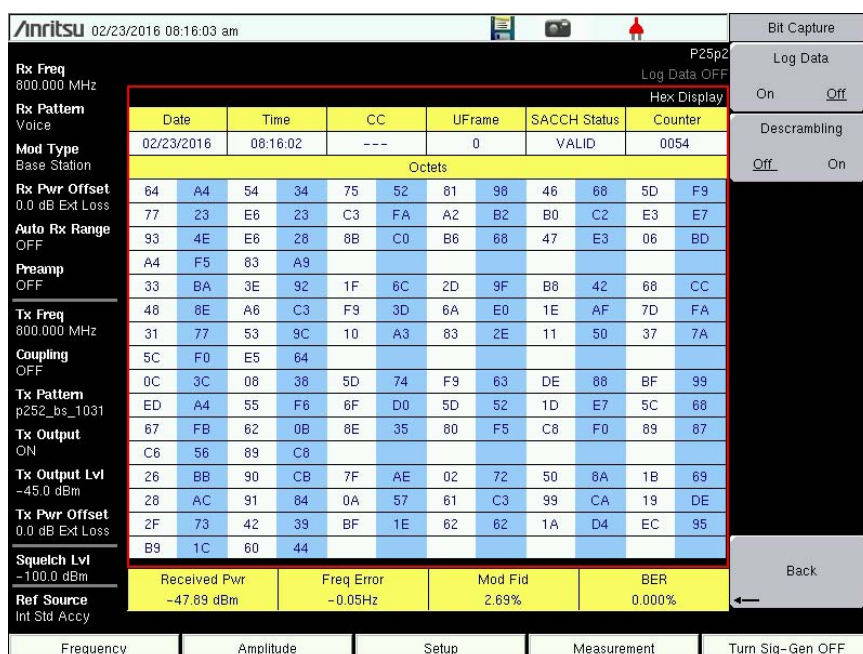

Figure 4-14. P25p2 Bit Capture Display
5. Set Log Data to On to start the bit capture. The information will be written to a data stamped folder inside the /usr folder on the root level of the USB flash drive. The tab delimited text file contains the header and table information shown in Figure 4-14. The files are named: